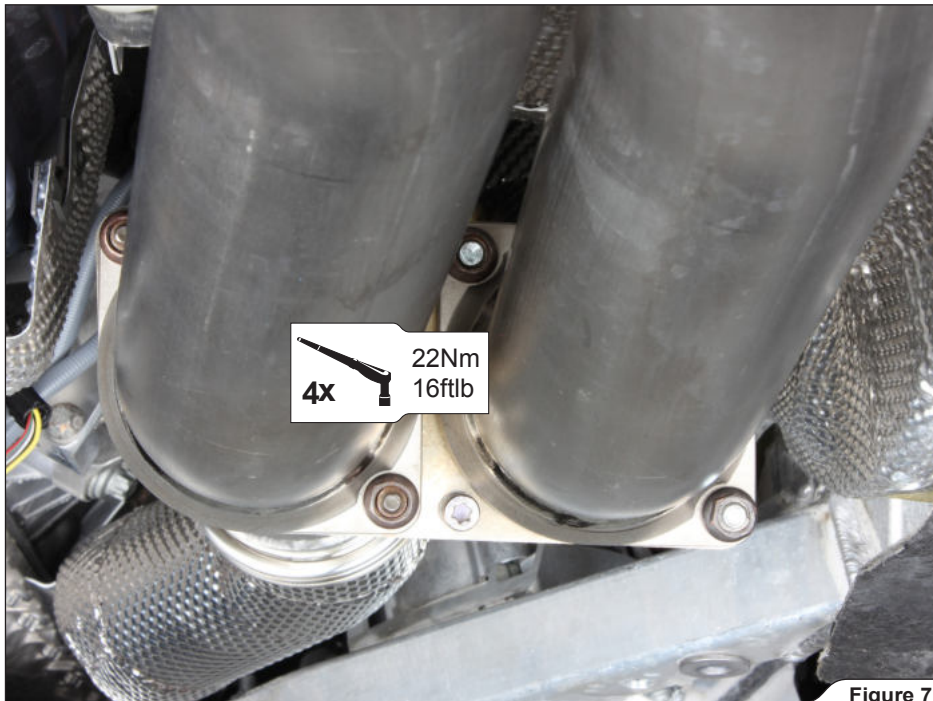

Figure 7
2. Install the Akrapovič link pipes onto the stock down pipes, using stock flange nuts (**Figure 7**).